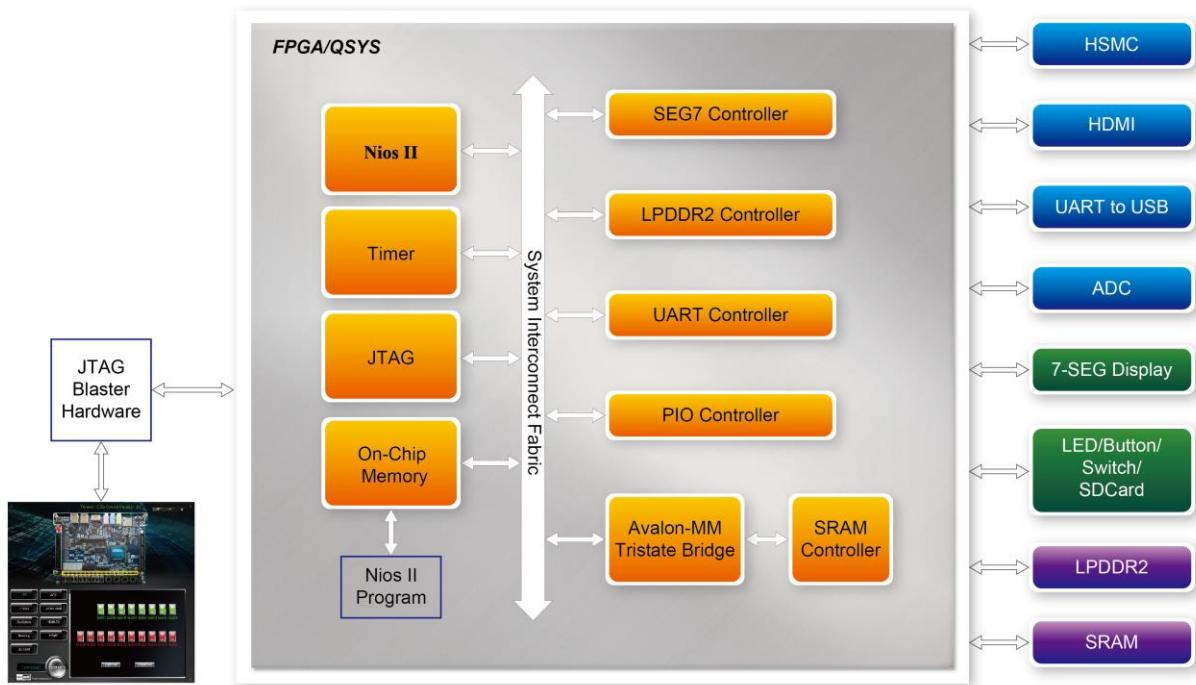

Figure 2-13 The block diagram of the C5G control panel
**Figure 2-13** depicts the structure of the Control Panel. Each input/output device is controlled by the Nios II Processor instantiated in the FPGA chip. The communication with the PC is done via the USB Blaster link. The Nios II interprets the commands sent from the PC and performs the corresponding actions.